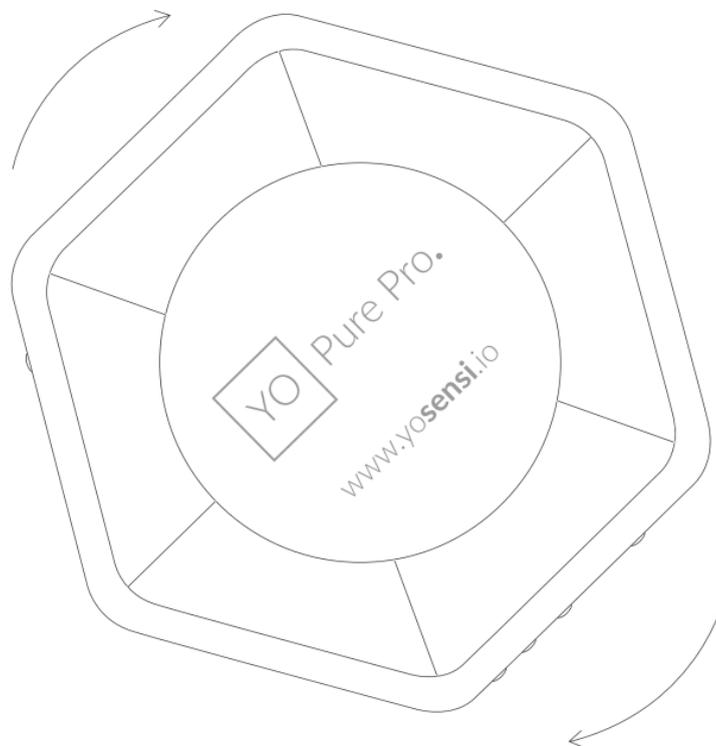
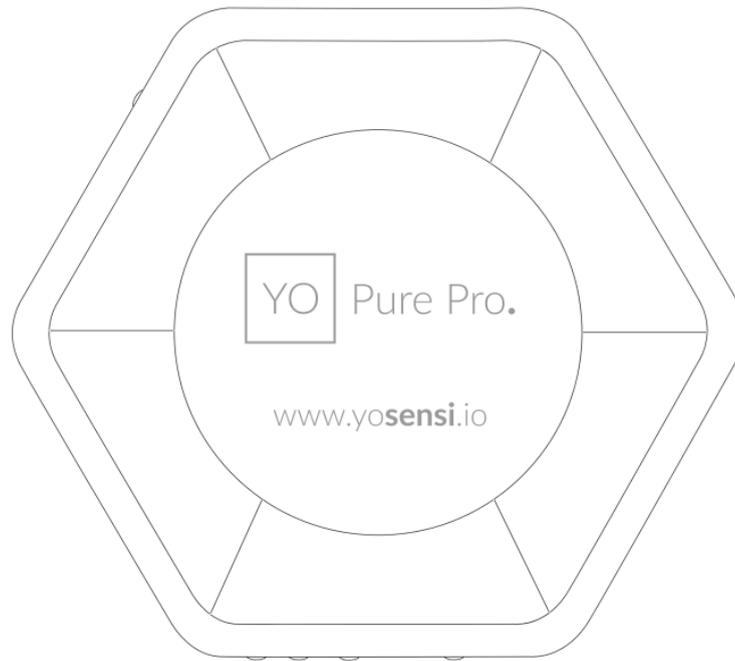

Figure 20 Turn the device clockwise after inserting into the bracket for mounting on a wall.
Figure 21 The final position of the device after properly mounting on a wall.
- D. Attach the device to the mounting bracket by first fitting the mounting nuts on the device into the mounting holes of the bracket. Next, turn the device clockwise (see Figure 20) until aligned to its final orientation (see Figure 21).